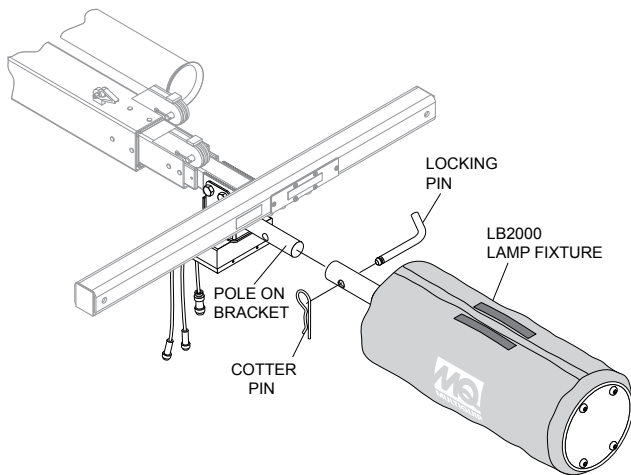

Figure 13. Installing GB2000 Lamp Fixture
- Place the GB2000 lamp fixture (Figure 13) onto the lamp mounting bracket. Lock the lamp fixture in place with the cotter pin.